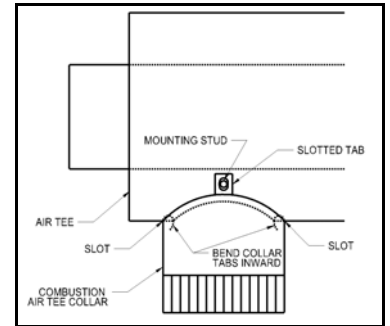

Figure 8
8. Air Tee Collar Installation: If the venter is to be used to provide combustion air to an appliance (See Figure 8):
In order to obtain proper system draft, the power venter has an airflow adjustment damper built in. When used in a system with a barometric draft control, this damper should be used to make coarse draft adjustments while the barometric should be used for finer adjustments. Loosen the locking screw on the air flow adjustment damper on the outer pipe of the power venter. (See Figure 8) Adjust the damper to the full open position. Follow appliance manufacturer's procedures for starting the heating appliance. Then adjust the thermostat to call for "Heat". After the system has operated for several minutes to stabilize flue gas temperatures, check for negative draft or up-draft at the heating appliance outlet or air flow into the draft hood. Use a draft gauge, velocity meter or match test procedure. Adjust the adjustment damper closed to obtain the minimum air flow required to maintain draft. Then increase air flow slightly (10% over minimum air flow rate) to ensure proper venting. For oil-fired or gas-fired power burners, adjust draft to proper over-fired draft.